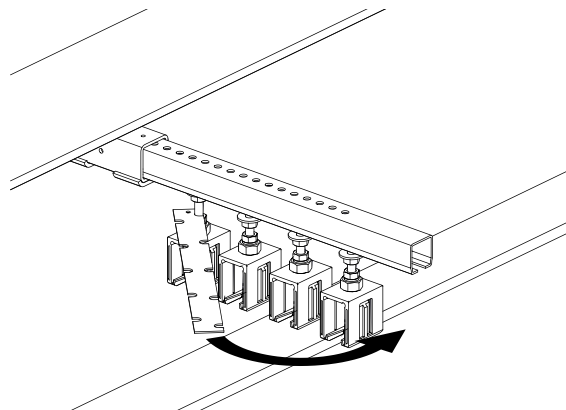
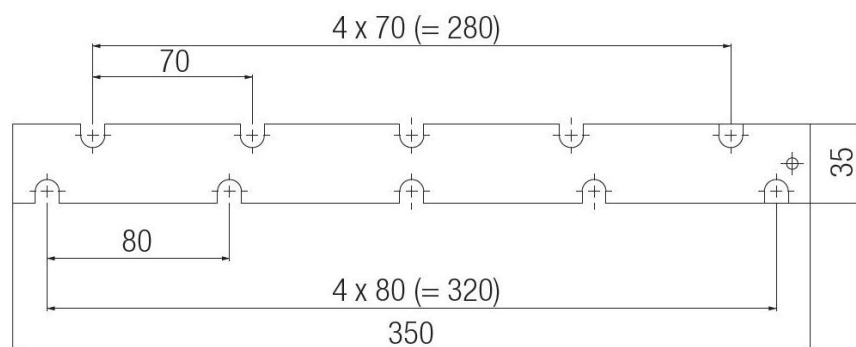

Fig. 54: Align the hanger clamps using the mounting comb
Fig. 55: Dimensions on the mounting comb
- In order to achieve an even phase offset, the next hanger clamps must be aligned with the mounting comb (see Fig. 54). The phase offset of either 80 mm (standard) or 70 mm (reduced) can be set with the mounting comb. Depending on which phase offset is to be implemented, the corresponding side (4x80 mm or 4x70 mm) of the mounting comb must be used (see Fig. 55).